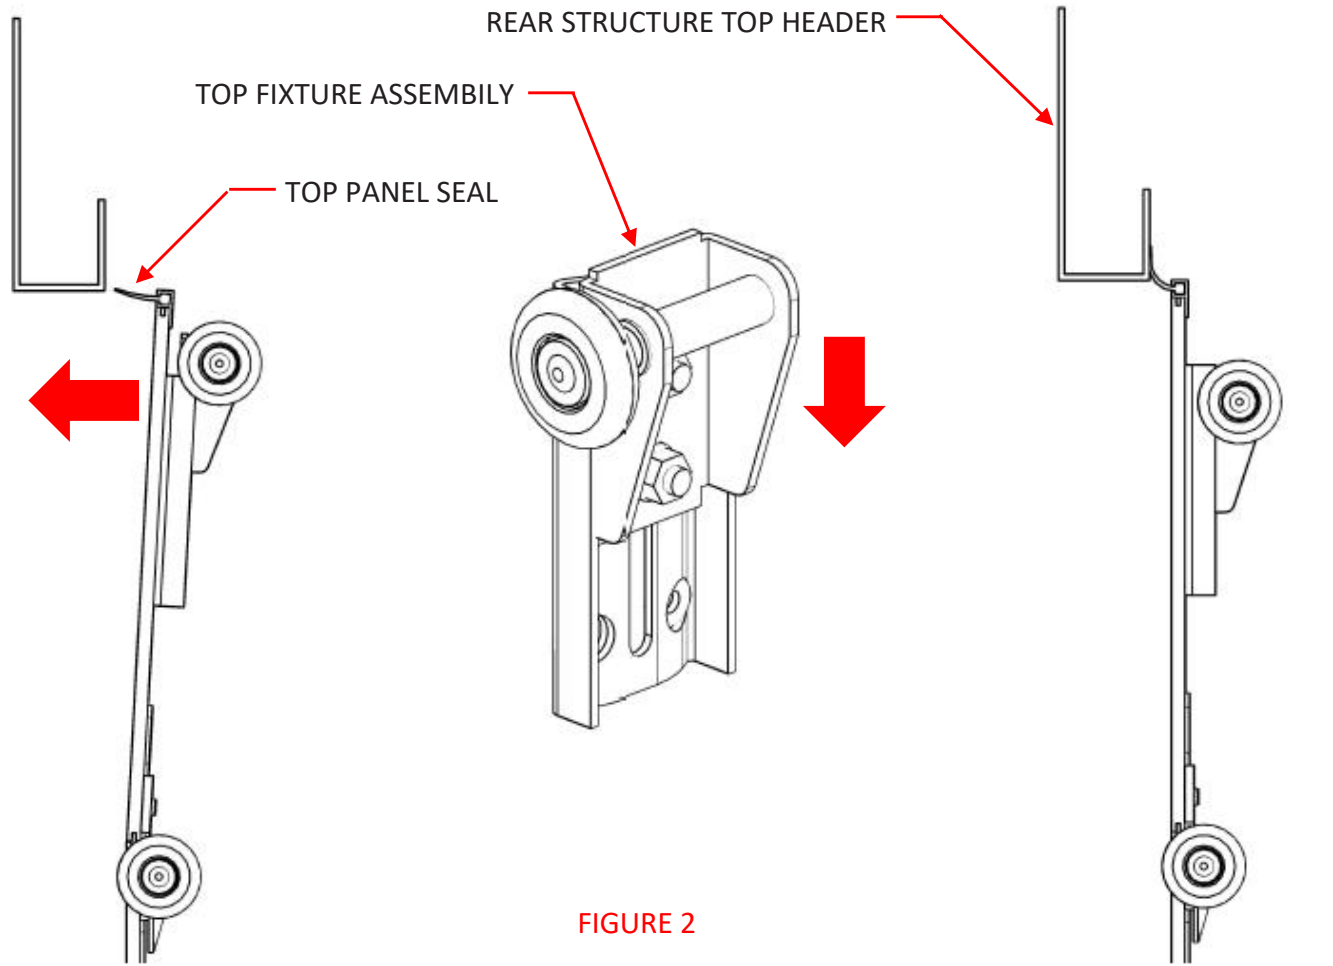

FIGURE 2
7. Does the top seal contact the header at the ends well as the middle while keeping the top panel in a vertical position? (See Figure 2).